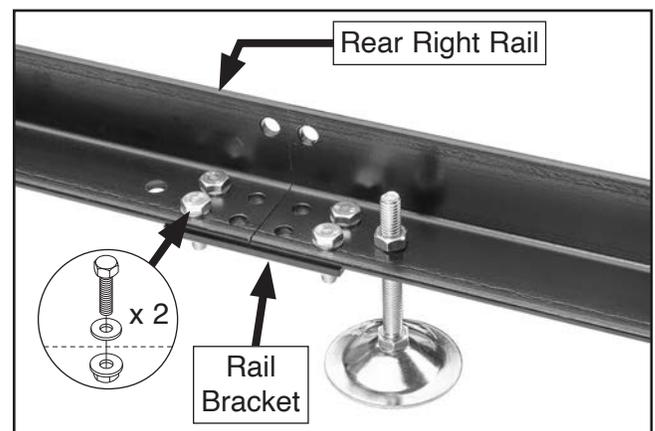

Figure 18. Rear right rail attached to rail bracket.
6. Attach rear right rail to rail bracket with (2) M10-1.5 x 30 hex bolts, $\frac{3}{8}$ " flat washers, and M10-1.5 flange nuts (see **Figure 18**).